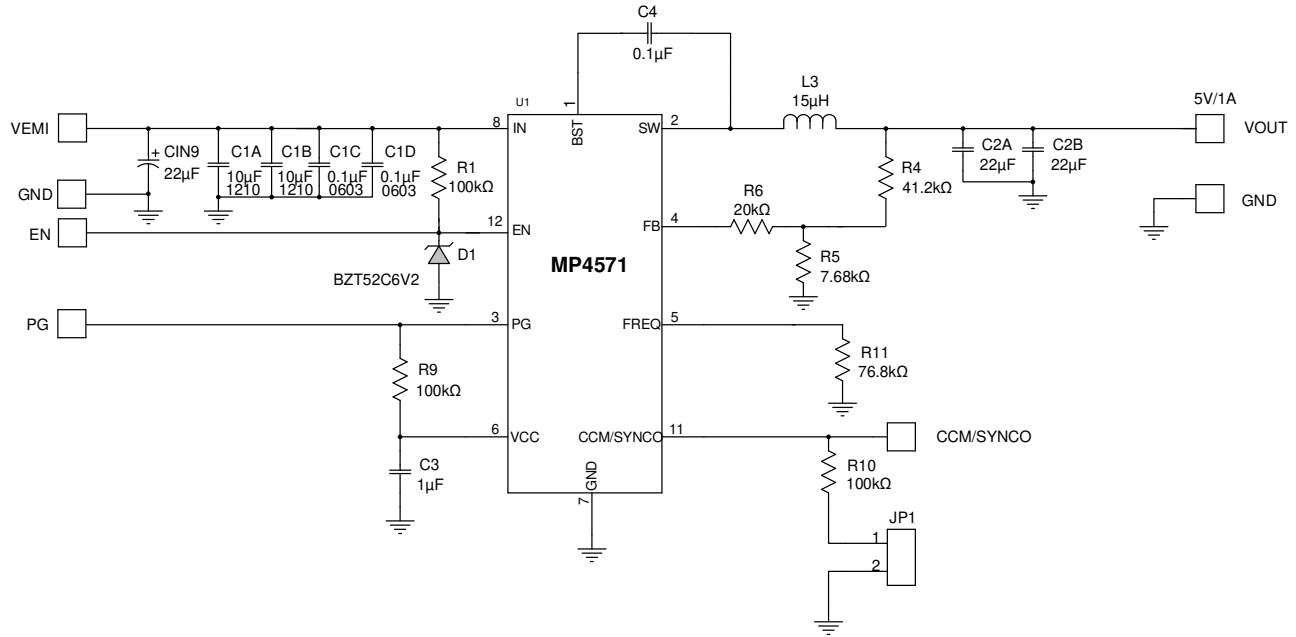

Figure 8: Typical Application Circuit
- 9) The recommended PCB layout is based on the circuit in Figure 8.